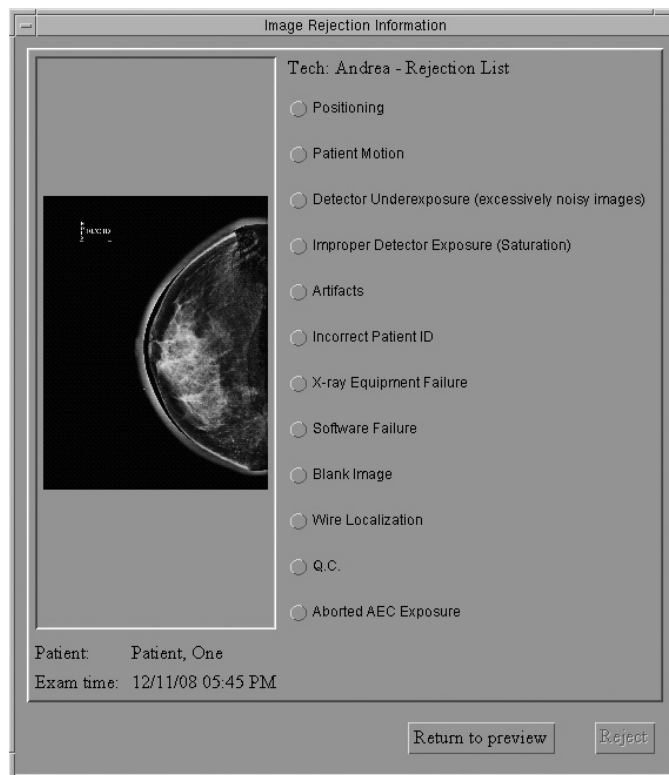

Figure 8-15: The Reject Reasons List
5. Select a reason for the reject. See Figure 8-15, page 92.